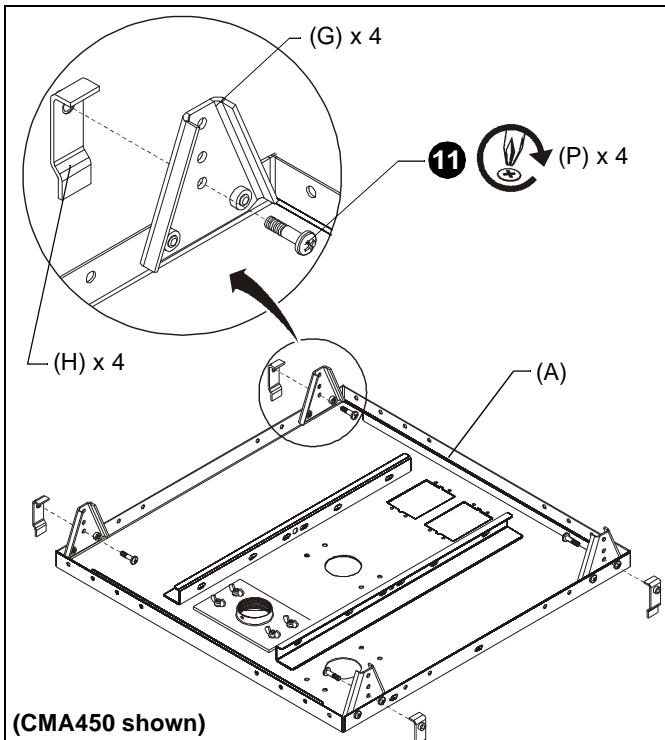

Figure 7
11. Loosely install ceiling framework clamps (H) to hanger brackets (G) using 1/4-20 x 1" Phillips head screws (P) (See Figure 7).